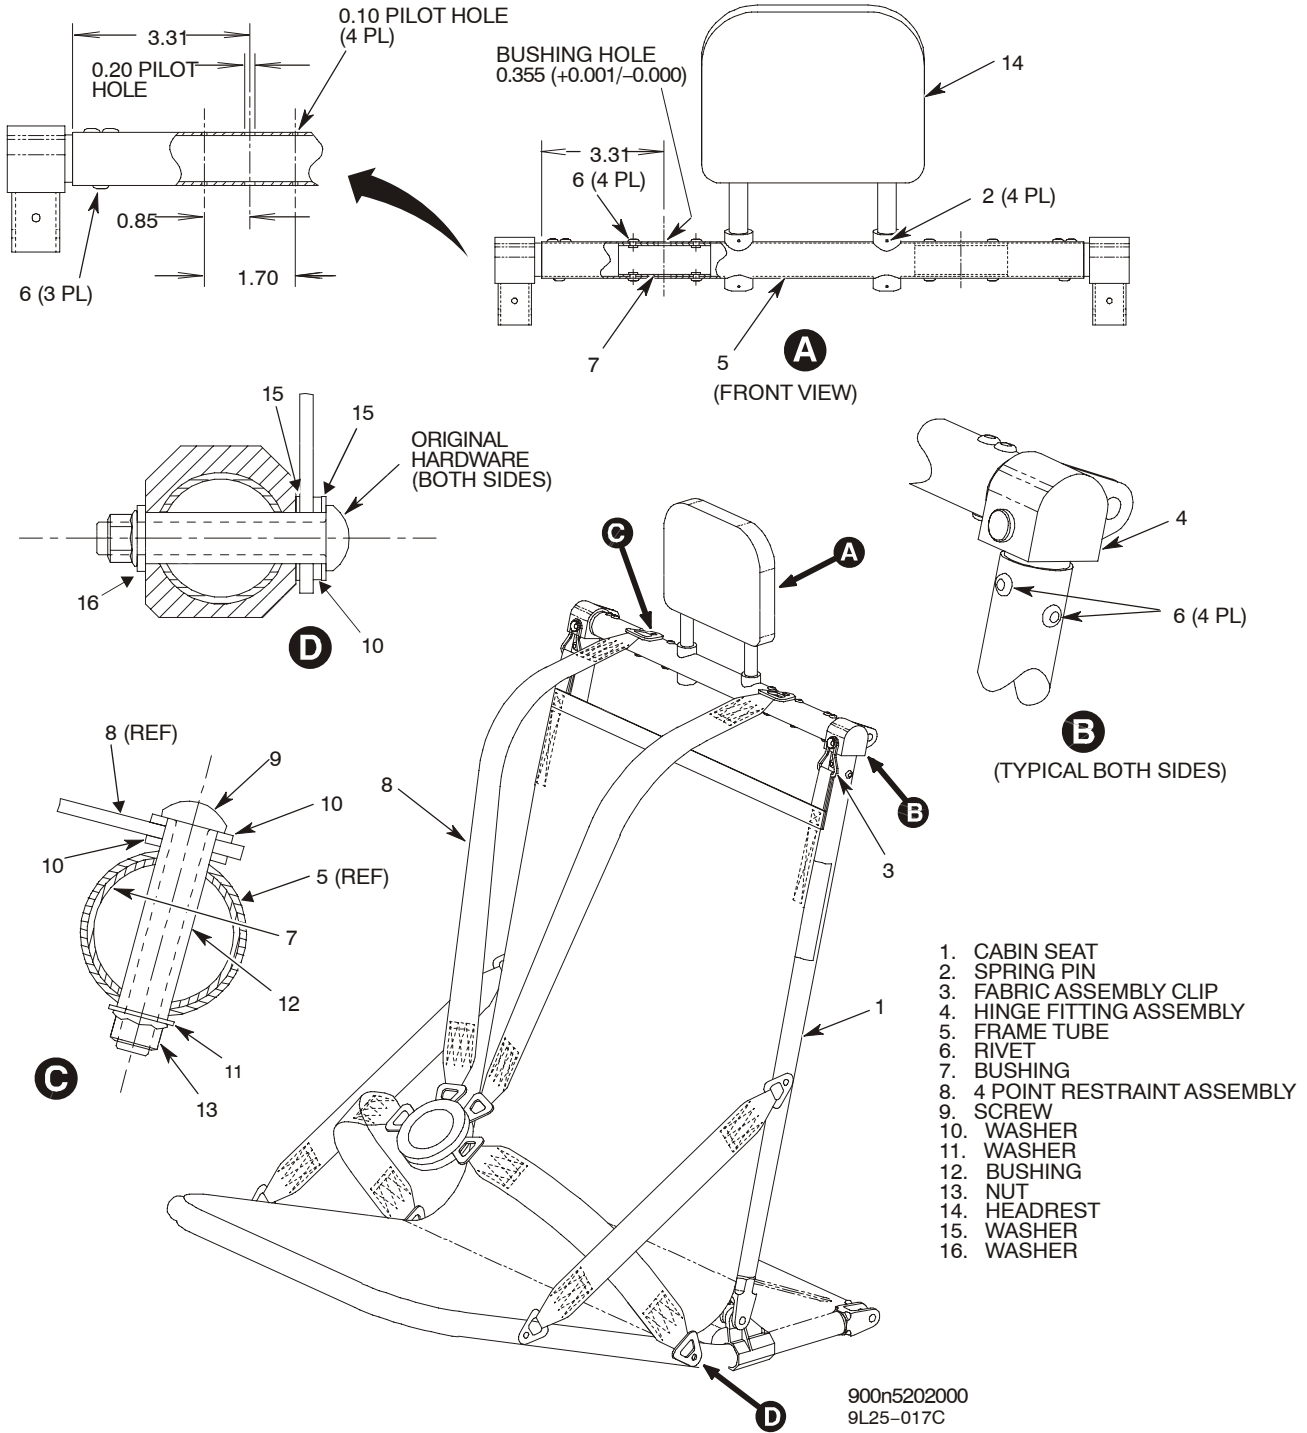

Figure 1. Seat Modification for 4 Point Restraint System
***NOTE:** REF. FIGURE 1 OF THIS SERVICE LETTER
(Ref. Figure 1)
- (p). Install rivets (6). Install wet with epoxy primer.
- (q). Install fabric clips (3) on fittings (4).
- (r). If removed, install headrest (14). Use new spring pins (2).
- (4). Install new restraint (8) on seat frame.
- (a). Install Upper attachments hardware. Ref Figure 1 detail C
- (b). Install Lower attachments hardware. Ref Figure 1 detail D
- (5). Identify seat (1) as 900N5202000-103 adjacent to name plate.
- (6). Install cabin seat (Ref. CSP-900RMM-2, Section 25-20-00).